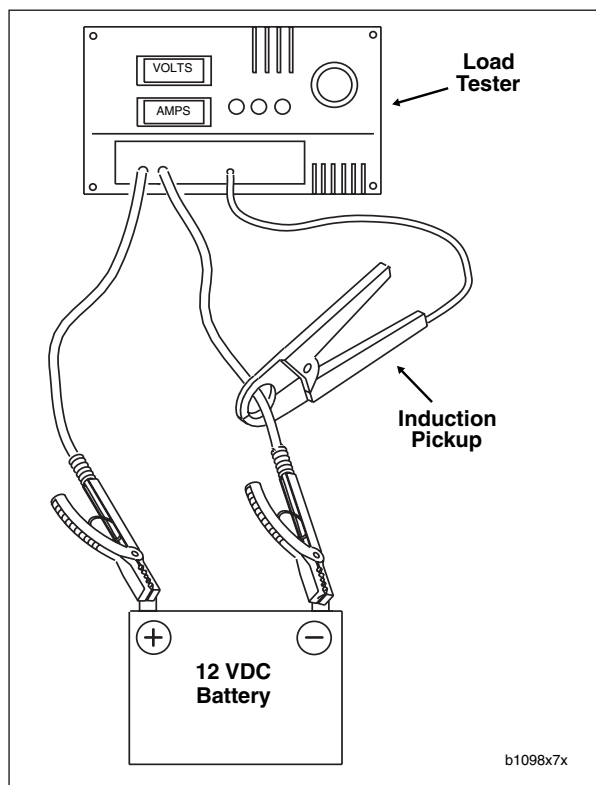

Figure 7-44. Load Test
3. Connect tester leads to battery posts and place induction pickup over negative (black) cable. See Figure 7-44.